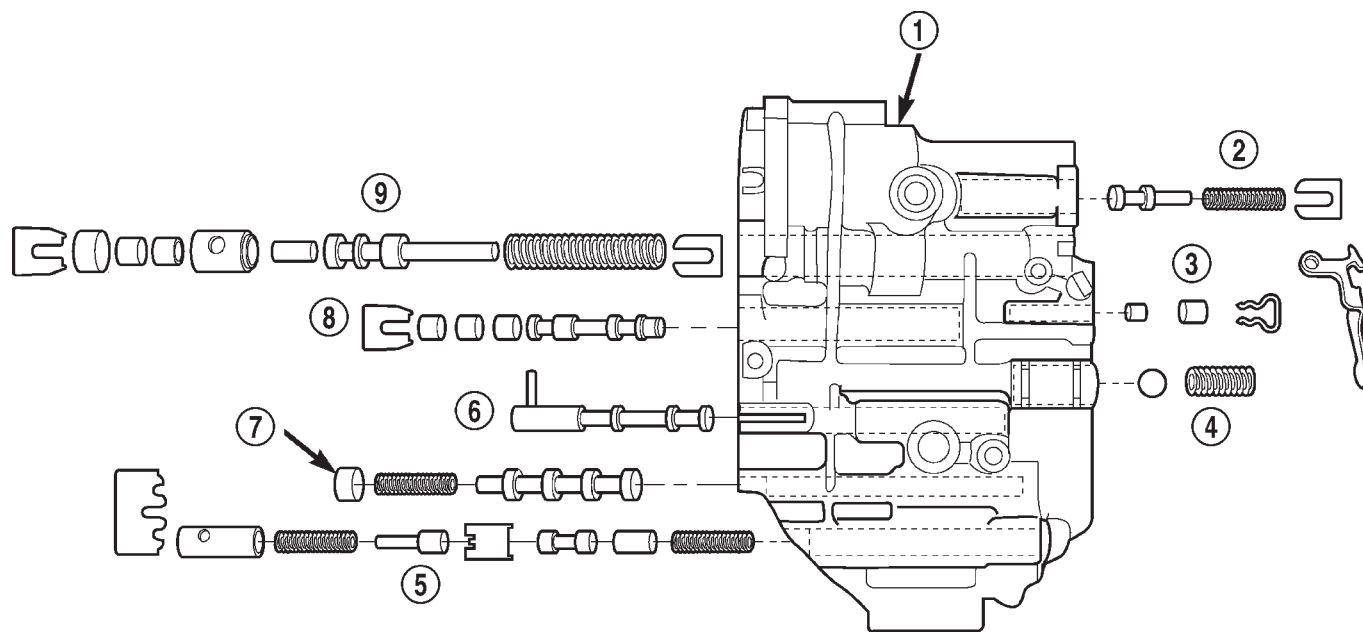

Fig. 137 Springs and Valves Location
(19) Remove valves and springs as shown in (Fig. 137).
(20) Cleanliness through entire disassembly and assembly of the valve body cannot be overemphasized. When disassembling, each part should be washed in a suitable solvent, then dried by compressed air. **Do not wipe parts with shop towels.** All mating surfaces in the valve body are accurately machined; therefore, careful handling of all parts must be exercised to avoid nicks or burrs.
- (1) Install valves and springs as shown in (Fig. 137).